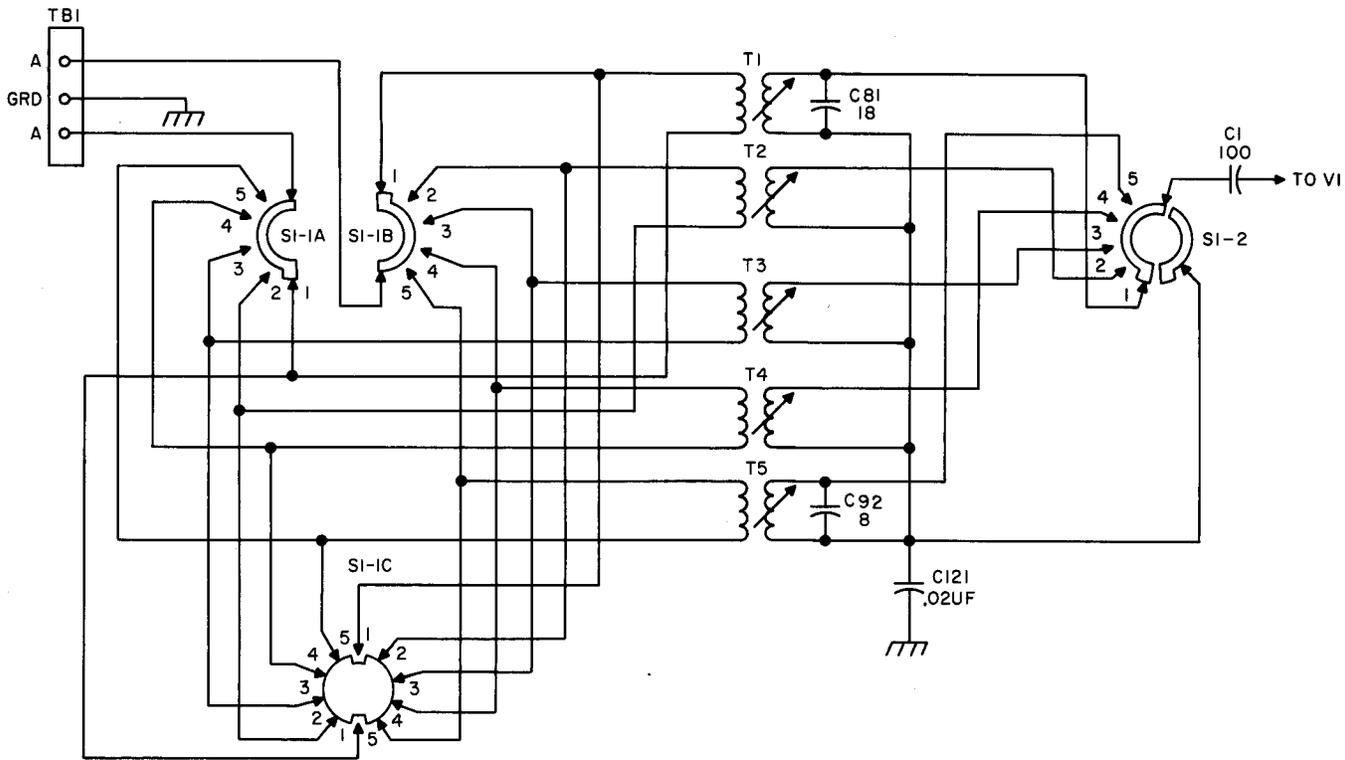

Figure 2-2. R-f Section Bandswitching
a. BANDSWITCHING. — Five sets of antenna, mixer, and local oscillator coils are used to tune the five bands covered by the receiver. In order to prevent stray coupling and resonant effects of the coils not in use, certain coils are short-circuited when not in use. The antenna transformers, T1 through T5, each have a primary and secondary winding. All unused primary windings of these transformers are short-circuited when not in use (figure 2-2). The secondary windings of T1 through T5, the primary and secondary windings of the mixer transformers, T10 through T14, and the local oscillator transformers T15 through T19 have their adjacent lower frequency coils short-circuited for all settings of BAND CHANGE control. For example, if the BAND CHANGE control is in the 1.2 - 3.0 position, all coils for the .49 - 1.2 band are short-circuited, as described above.